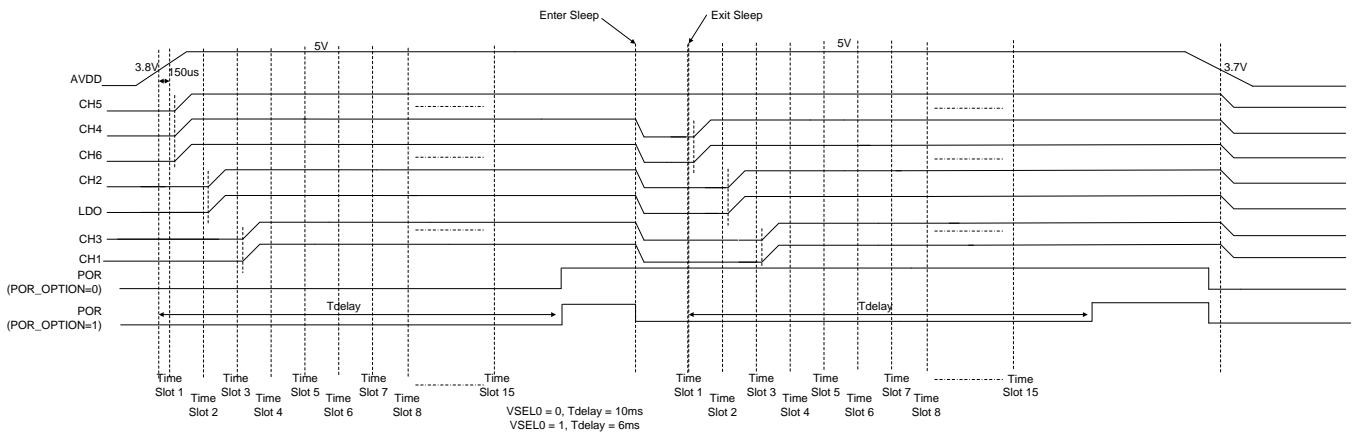
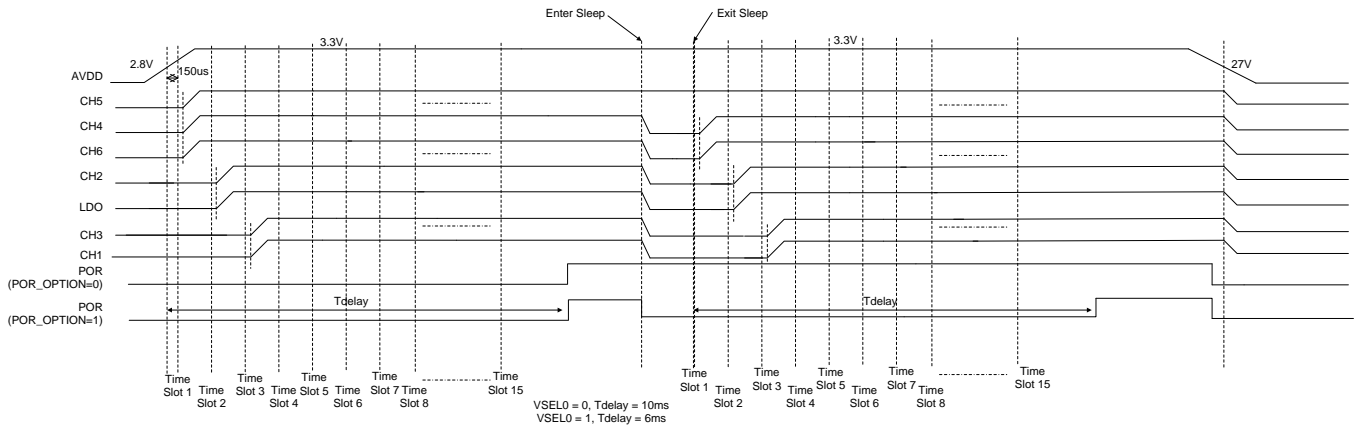

Figure 7. For example : Power On/Off Sequence and Sleep Off / Wake up Sequence with Different POR_OPTION on V_{IN} = 5V
Figure 8. For example : Power On/Off Sequence and Sleep off / Wake up Sequence with Different POR_OPTION on $V_{IN} = 3.3V$
The RT5045A starts a power up sequence when AVDD > UVLO rising threshold voltage, and the device shuts down with AVDD < UVLO falling threshold voltage. The RT5045A applies sleep mode of PMIC to save power consumption with setting the SLEEP bit of SLEEP_REG to 1. If the device goes to sleep mode, power rails are set to LPM and the alive rails depend on sleep mode control register setting. The power rails will exit from LPM to normal mode and wake up with a sequence as the same as the power-up-sequence when SLEEP bit = 0. The relations of all power rails of RT5045A and sleep off / wake up sequence with different POR_OPTION on V_{IN} = 3.3V are shown as following Figure 7. The relations of all power rails of RT5045A and sleep off / wake up sequence with different POR_OPTION on V_{IN} = 5V are shown as following Figure 8.
► An example of PCB layout guide is shown in Figure 7.for reference.